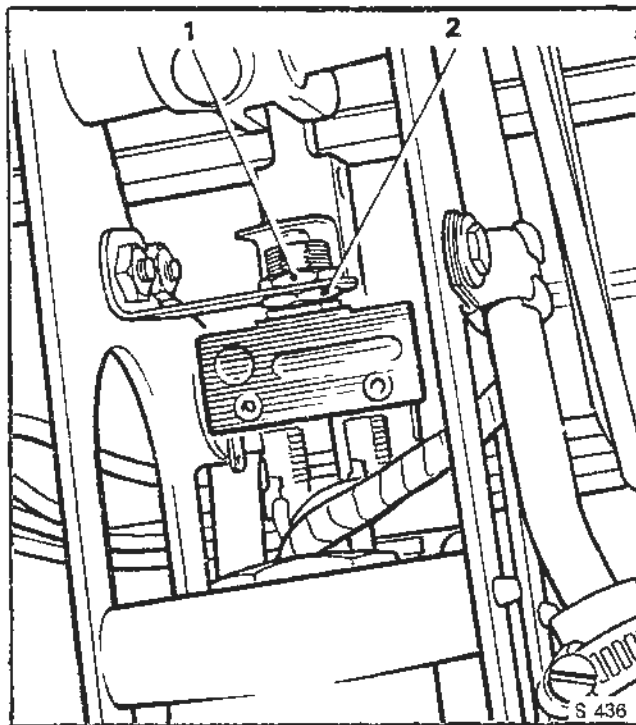

Figure 1. Stop lamp switch adjustment
3. Slacken the front securing nut of the switch (see Fig.1, item 1).
4. With the switch pressed forward and by rotating the rear securing nut (see Fig. 1, item 2) adjust the switch position until the stop lights are just extinguished. At this point there should be no pressure being applied to the brake pedal.